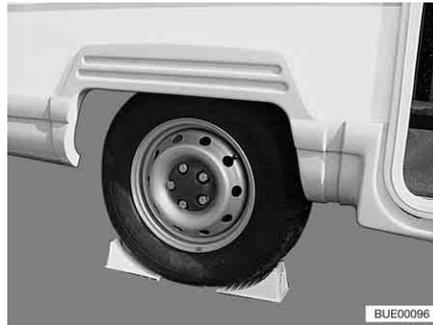

Fig. 283 Securing vehicle
- Place wheel chocks or other appropriate objects beneath the opposite wheel of the vehicle to secure it (Fig. 283).